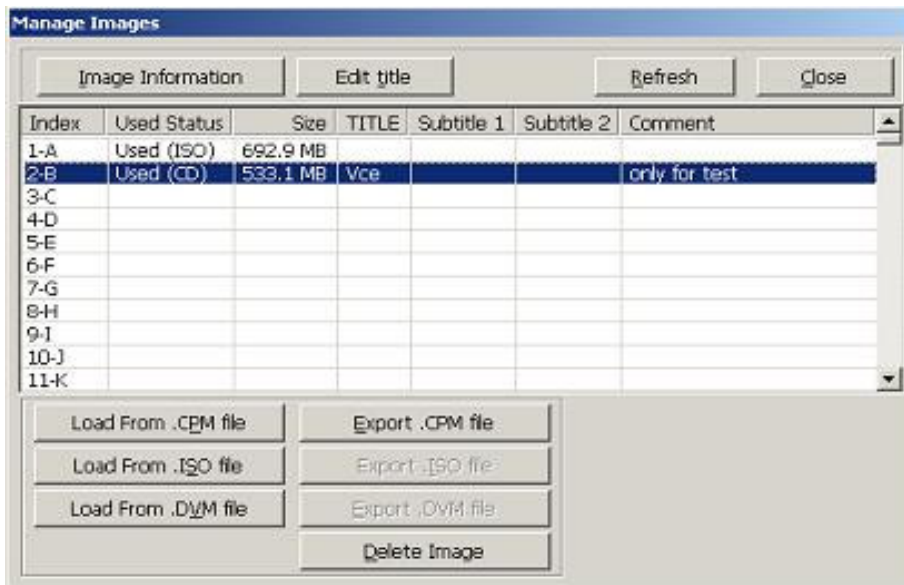

Figure 10
11. After editing the file information, click on “OK” to go to Fig. 10.